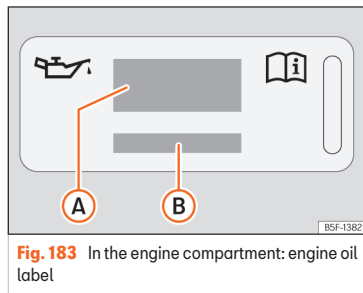
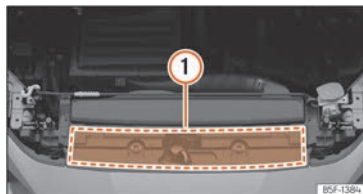

Fig. 183 In the engine compartment: engine oil label
Fig. 184 In the engine compartment: area where the engine oil label is located
Key to the >>> Fig. 183:
If the engine oil has to be topped up, use one of the oils shown on the label >>> Fig. 183. The label with the prescribed standard is located at the front of the engine compartment >>> Fig. 184 (1). If you use the recommended engine oil, you can top up the oil as often as necessary.